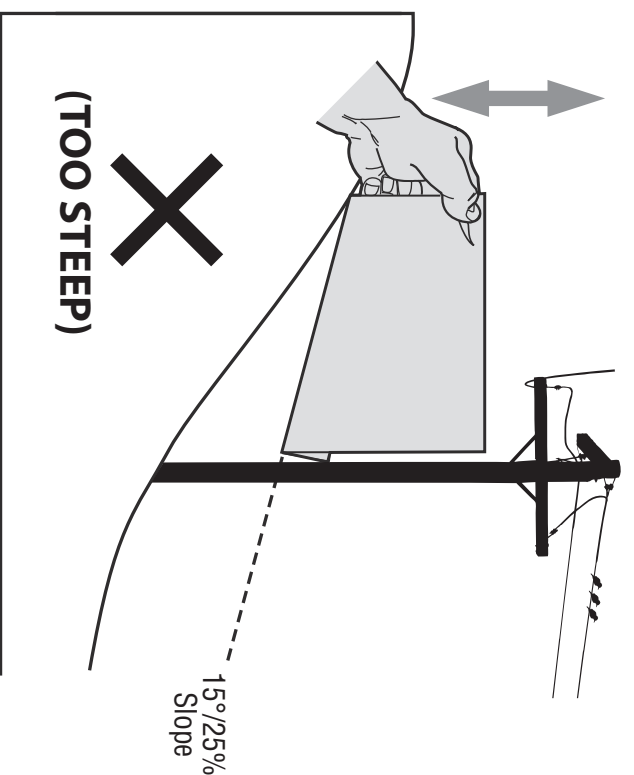

Figure 2
3. Align either side of the slope gauge with the object (See Figure 1 and Figure 2).
4. Adjust gauge up or down until the left corner touches the slope (See Figure 1 and Figure 2).
5. If there is a gap below the gauge, the slope is too steep for safe operation (See Figure 2 above).